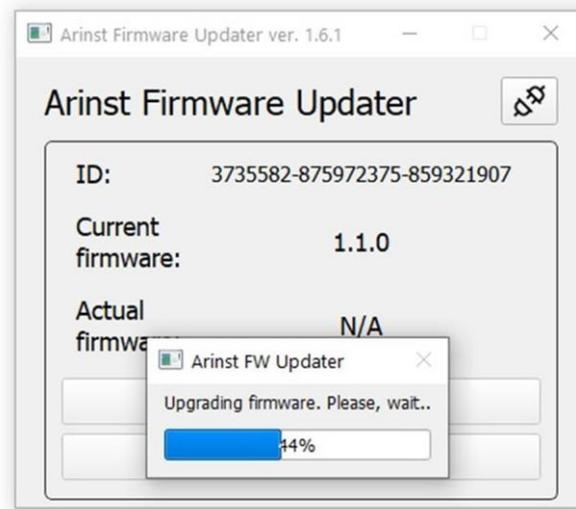

Figure A2.9 - The process of downloading updates
2.9. During the firmware update of the device, the window will appear with the download progress (Figure A2.9).